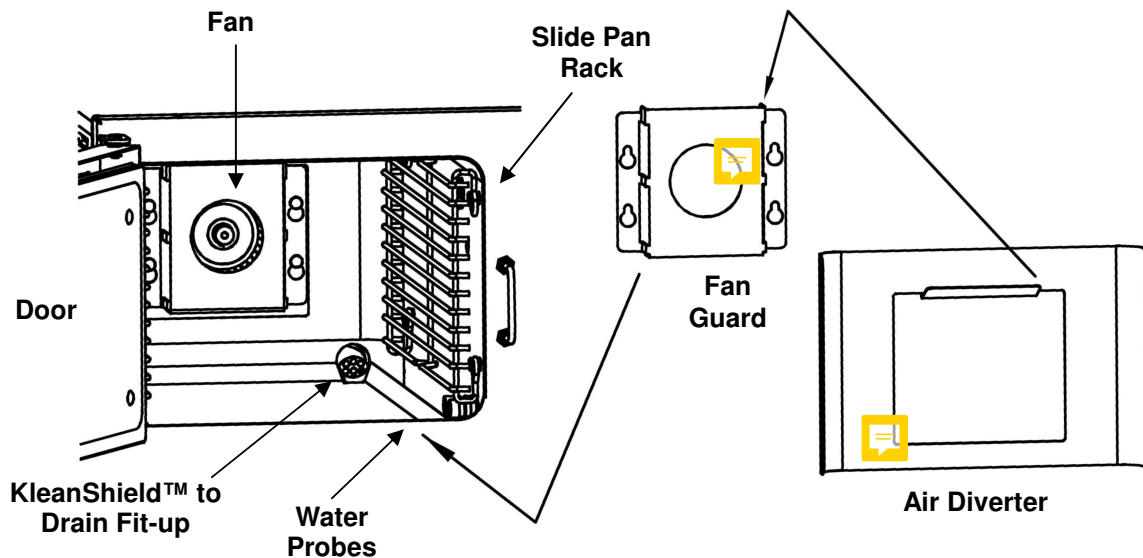

Figure 3-8
Note: See Figure 3-8.
- 3) Pull it down so that the narrow ends of the slots are pulled tight over the mounts. See Figure 3-8.
1. Each slide rack has four loops: two at the top and two at the bottom. Hold the slide rack so the ends of the hanger loops are towards the cooking compartment wall, as shown in Figure 3-8.